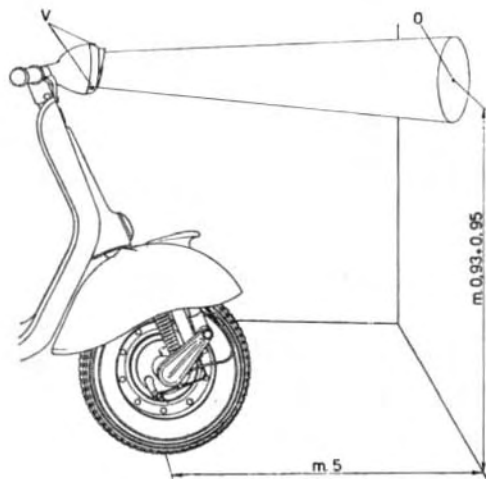

Fig. 15 - Adjusting the head lamp.
- Place the scooter on level floor in front of white wall, where a point « O » has been marked, as seen on Fig. 15.
With two persons on the Vespa, the beam axis should coincide with point « O » on the wall. If not, slacken the screws « V » (Fig. 15), move the head lamp as required, then tighten the screws « V » again. This operation can be carried out also with driver only sitting on the saddle. In such a case, of course, the beam alignment should be altered whenever the scooter is being ridden by both driver and passenger.